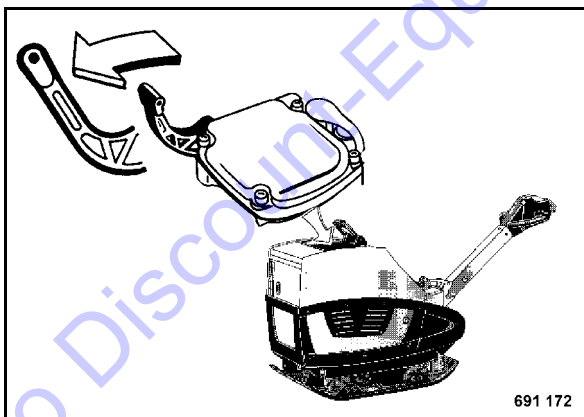

Fig. 24
- Pull the decompression lever (Fig. 24) in direction of arrow to the end stop. The compression lever clicks noticeably into place.